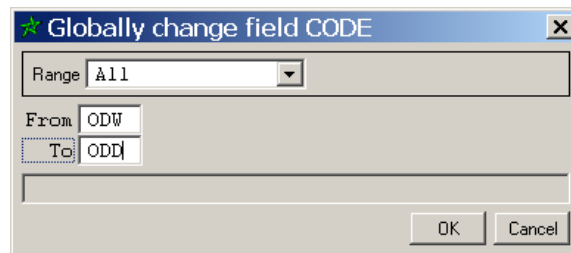
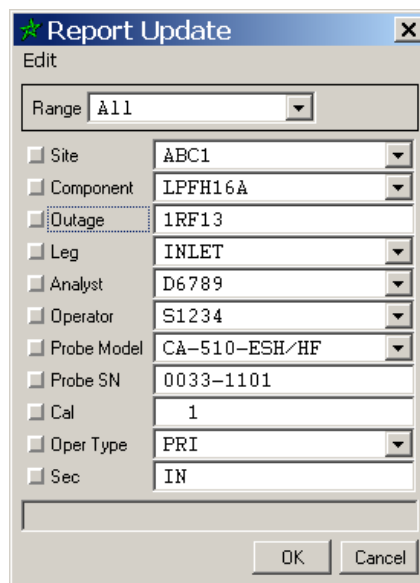
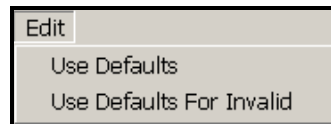

Figure 32. Database | Upload Reports | Import Report Dialog | Global Change Dialog
Figure 33. Database | Upload Reports | Import Report Dialog | Report Update Dialog
Figure 36. Database | Upload Reports | Import Report Dialog | Report Update Dialog | Edit Menu
If you need to make a global edit to a report column(s), there are two (2) editing tools that can help. The **Global Change** dialog shown in Figure 32 or the **Report Update** dialog shown in Figure 33.
Right-click on the report column name that you want to edit. As listed in Figure 33, the **Report Update** dialog will appear for the following fields: *Site*, *Component*, *Outage*, *Leg*, *Analyst*, *Operator*, *Probe Model*, *Probe Serial Number*, *Cal*, *Operator Type*, and *Section*. For all other fields, the **Global Change** dialog will appear.
The **Global Change** dialog acts like a find and replace tool. The value you specify will be changed **From** *x* **To** *y* within the **Range** selected. For example in Figure 32, we need to edit the **CODE** column in the report. The name of the column is shown in the title bar of the dialog. *ODW* was automatically entered in the **From** field because the report line that was selected just before we brought up the **Global Change** dialog had *ODW* in the **CODE** column. You can manually type in this box as many characters as the column allows. For **CODE**, the maximum is four (4) characters. We need to change *ODW* to *ODD*. So, we simply type *ODD* in the **To** box.
As previously mentioned, right-clicking a report column header in order to globally change any of the fields shown in Figure 33 will bring up the **Report Update** dialog. The **Outage** and **Probe SN** fields are the only fields that can be edited manually. The sources of all remaining fields are from the **Lookup** tables, **Summary** fields, or entries on the **EddyAdmin** dialog for the project. All of these fields, with the exception of **Probe Model** and **Probe SN**, are required for the report to be uploaded. If one or more of these fields is empty, a warning will appear when attempting to upload the report indicating that you must have information in that field(s) before it can be uploaded. The **Report Update** dialog is the only way to edit one of these fields.
As shown in Figure 36, there are two (2) selections on the **Edit** menu of the **Report Update** dialog (Figure 33). To better understand the purpose of these selections, please review the following foreword.